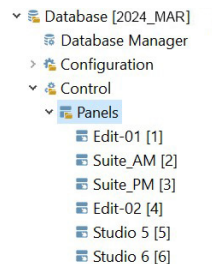

Figure 52 Example of Soft Panel Nodes
A soft panel is created using the options in the Panels interface for the database. Once created, the soft panel is listed as a sub-node in the Database > Control > Panels tree. The hierarchy of the nodes in the tree is determined by their Panel ID which is assigned when the soft panel is created in the database. Double-click a sub-node to display the corresponding soft panel in the DashBoard window. In **Figure 52** there are six soft panels in the tree view.
5. Use the **ID** field to determine the position of the panel in the Control > Panels tree where a value of 1 is the highest priority and listed as the first node. Refer to **Figure 52**.